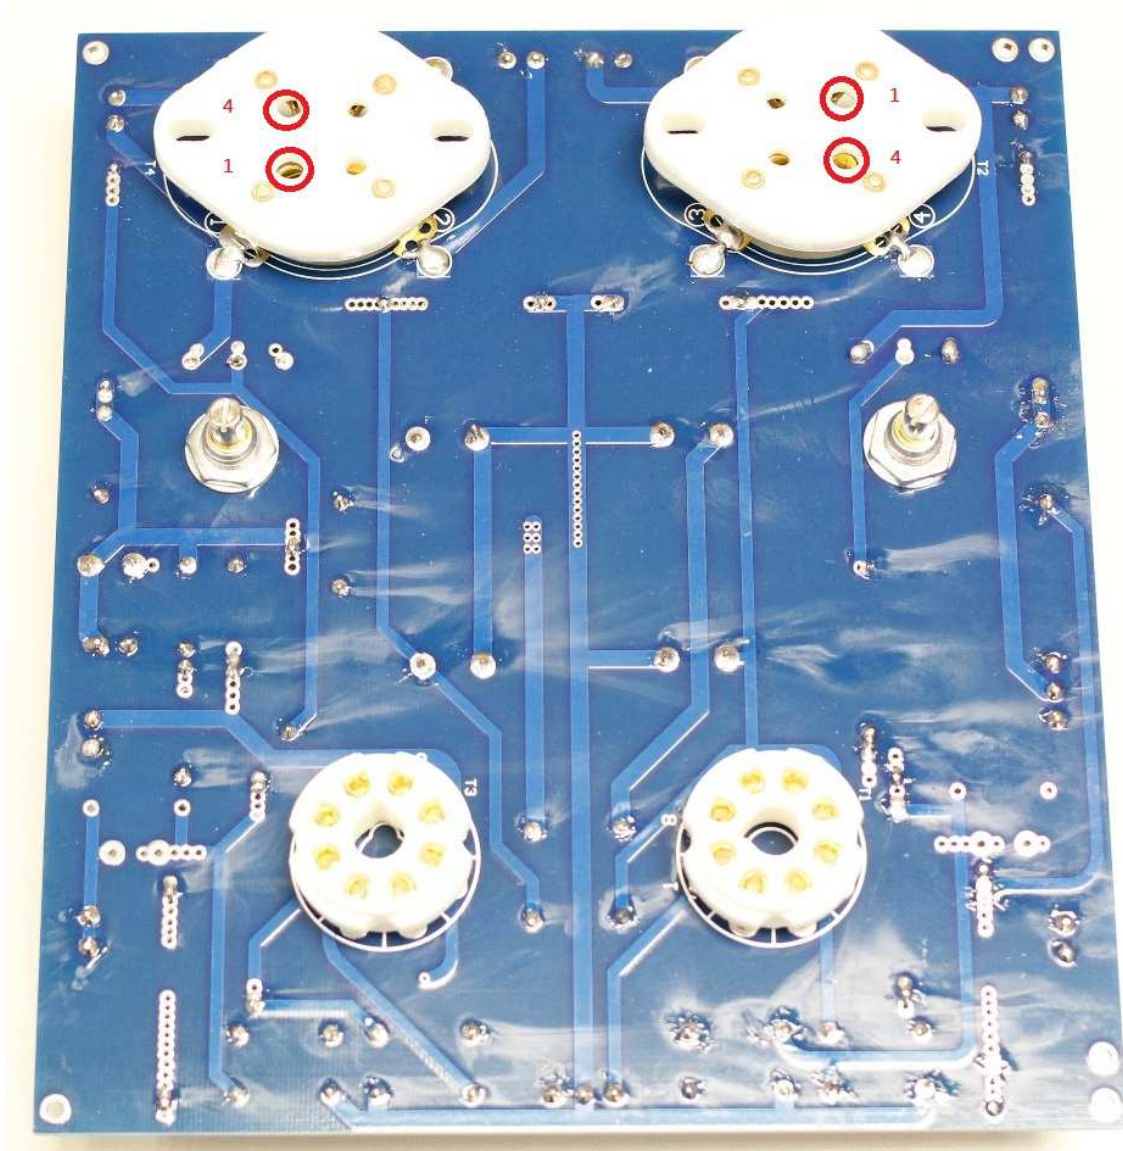

Figure 2: Direction of 4-Pin tube sockets for 2A3 and 8-Pin octal tubes sockets for 6SN7
3. Solder the tube sockets. The bigger holes of the 4-Pin plate sockets correspond to the PIN1 and PIN4 of 2A3 (tube filament voltage). The direction of the 8-Pin octal tube sockets for 6SN7 match with the screen silk of the board as in Figure 2.